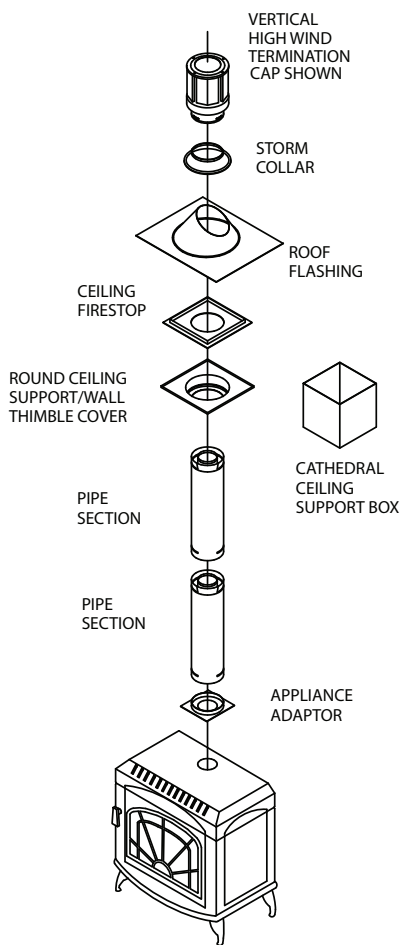

Figure 3
- Vertical Termination (**Fig. 3**)